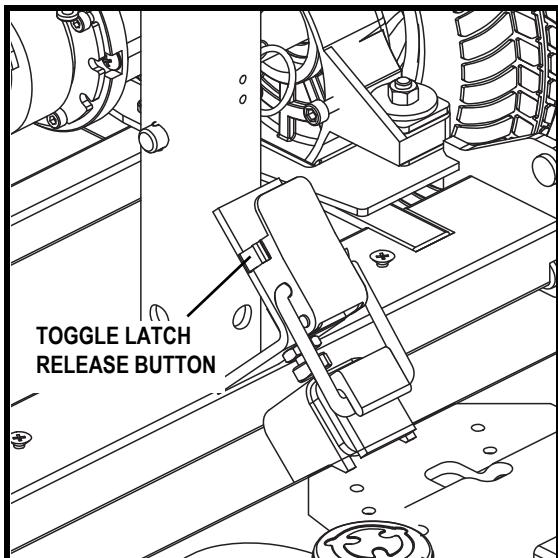

Figure 7. Toggle Latch Closed
6. Push in the toggle latch release button while pulling forward on the toggle latch. See figure 7.